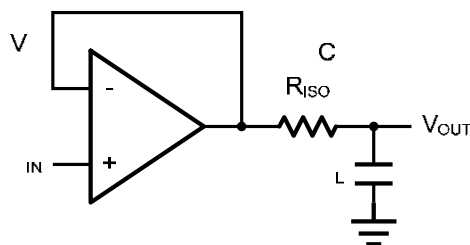
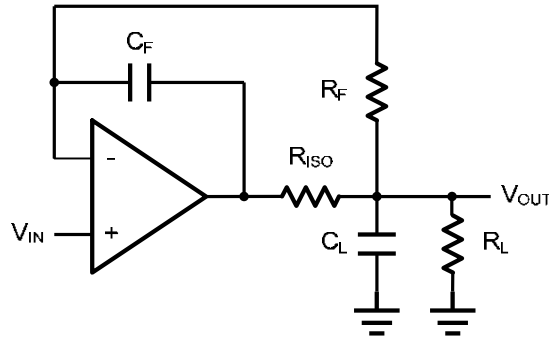

Figure 2 Indirectly Driving a Capacitive Load Using Isolation Resistor
Figure 3. Indirectly Driving a Capacitive Load with DC Accuracy
The AD854xARTZ-REEL7 family is optimized for bandwidth and speed, not for driving capacitive loads. Output capacitance will create a pole in the amplifier's feedback path, leading to excessive peaking and potential oscillation. If dealing with load capacitance is a requirement of the application, the two strategies to consider are (1) using a small resistor in series with the amplifier's output and the load capacitance and (2) reducing the bandwidth of the amplifier's feedback loop by increasing the overall noise gain. Figure 2 shows a unity gain follower using the series resistor strategy. The resistor isolates the output from the capacitance and, more importantly, creates a zero in the feedback path that compensates for the pole created by the output capacitance.
The circuit in Figure 3 is an improvement to the one in Figure 2. R_F provides the DC accuracy by feed-forward the V_{IN} to R_L . C_F and R_{ISO} serve to counteract the loss of phase margin by feeding the high frequency component of the output signal back to the amplifier's inverting input, thereby preserving the phase margin in the overall feedback loop. Capacitive drive can be increased by increasing the value of C_F . This in turn will slow down the pulse response.